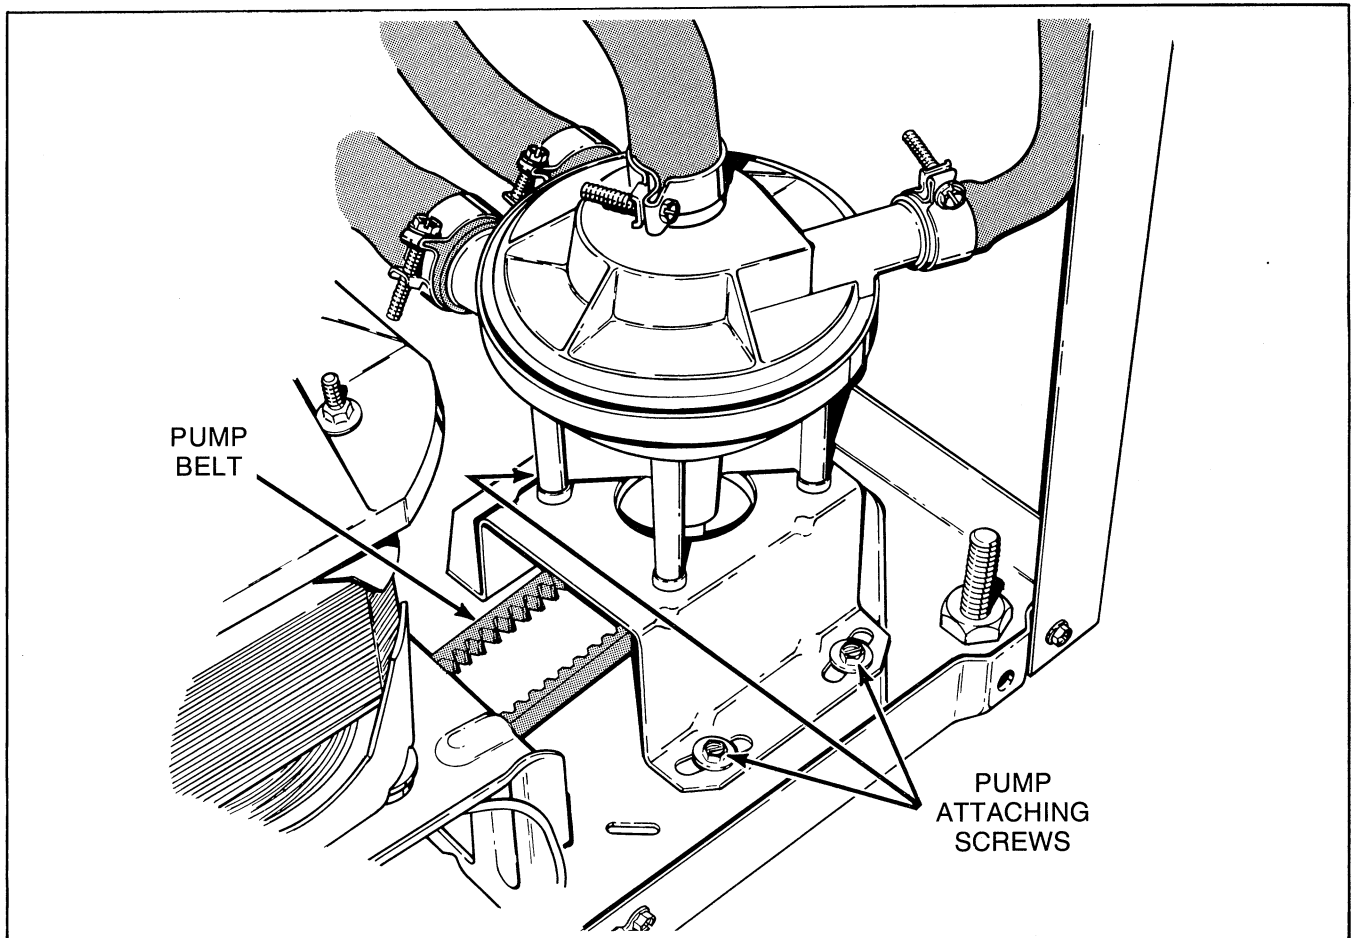

Figure 15
- c. Loosen two front mounting screws and one rear mounting screw holding pump and bracket to washer base, *Figure 15*, pivot entire assembly toward motor to loosen belt tension.
- c. Remove two front mounting screws and loosen the rear mounting screw holding pump and bracket to washer base, *Figure 15*, pivot entire assembly toward motor to loosen belt tension.